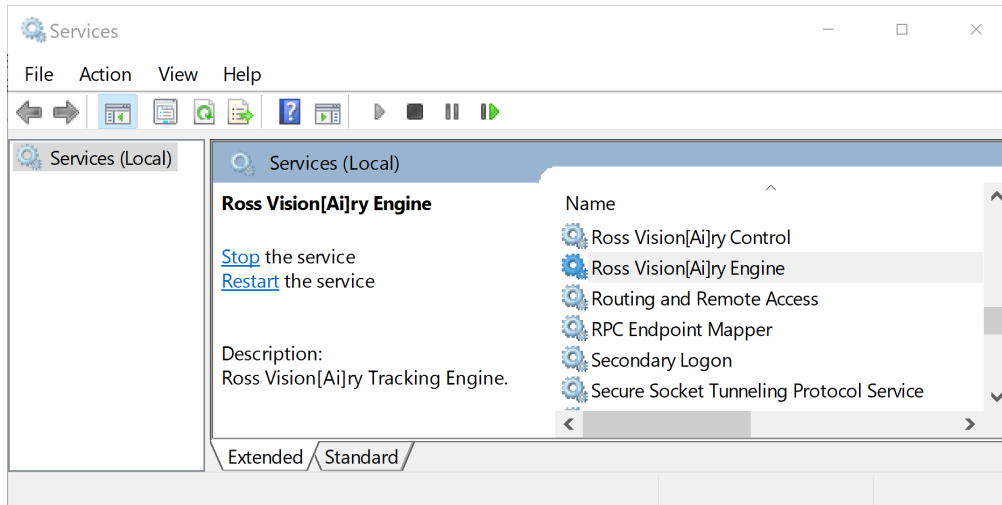

Figure 14 - Windows Services, showing the Ross Vision[Ai]ry Engine Service
- a. In **Windows Services**, stop the **Ross Vision[Ai]ry Engine** service (Figure 14).